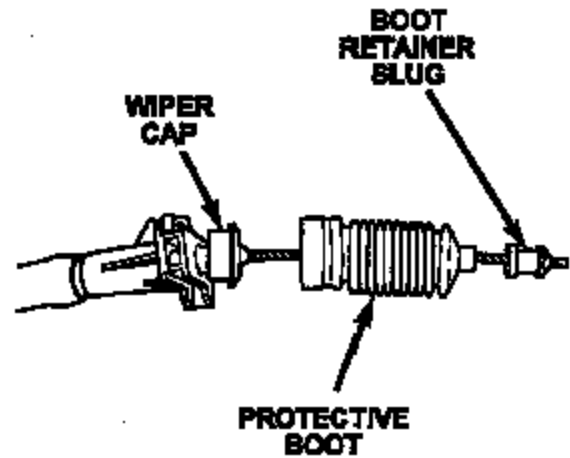

Figure 2
- Disconnect the protective boot on the throttle cable from wiper cap and the boot retainer slug (Figure 2).